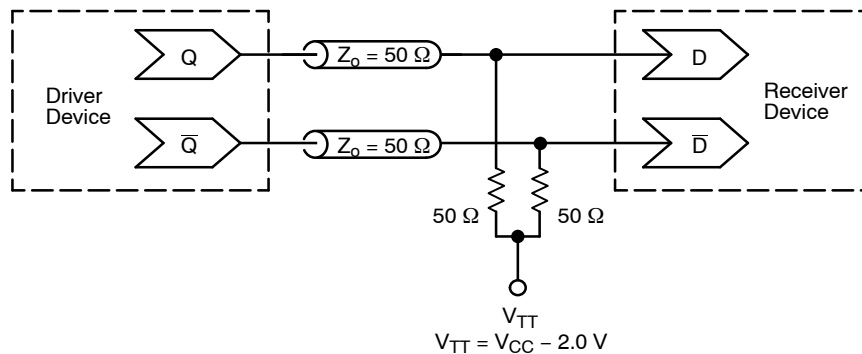

Figure 10. Typical Termination for Output Driver and Device Evaluation (See Application Note AND8020/D – Termination of ECL Logic Devices)
2. All loading with 50 Ω to $V_{CC} - 2.0\text{ V}$ (see Figure 10).
2. All loading with $50\ \Omega$ to $V_{CC} - 2.0\text{ V}$ (see Figure 10).
1. Measured using a 750 mV source, 50% duty cycle clock source. All loading with $50\ \Omega$ to $V_{CC} - 2.0\text{ V}$ (see Figure 10).